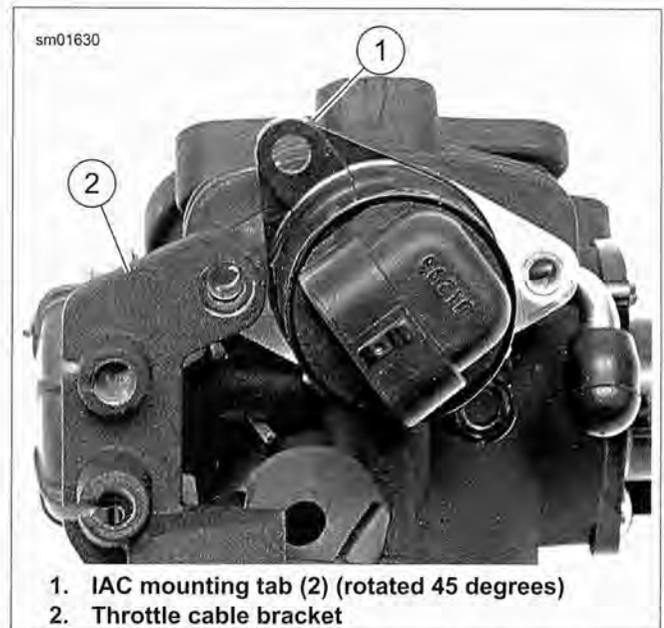

Figure 4-51. Removing/Installing IAC: XL Models
4. Using a six-point socket (not a Torx wrench), remove two screws (2) in the following order:
5. See Figure 4-51. Grasp IAC and rotate clockwise until IAC mounting tab (1) clears throttle cable bracket (2).
4. See Figure 4-51. Rotate IAC approximately 45 degrees clockwise so IAC mounting tab will clear throttle cable bracket (2) when IAC is installed.